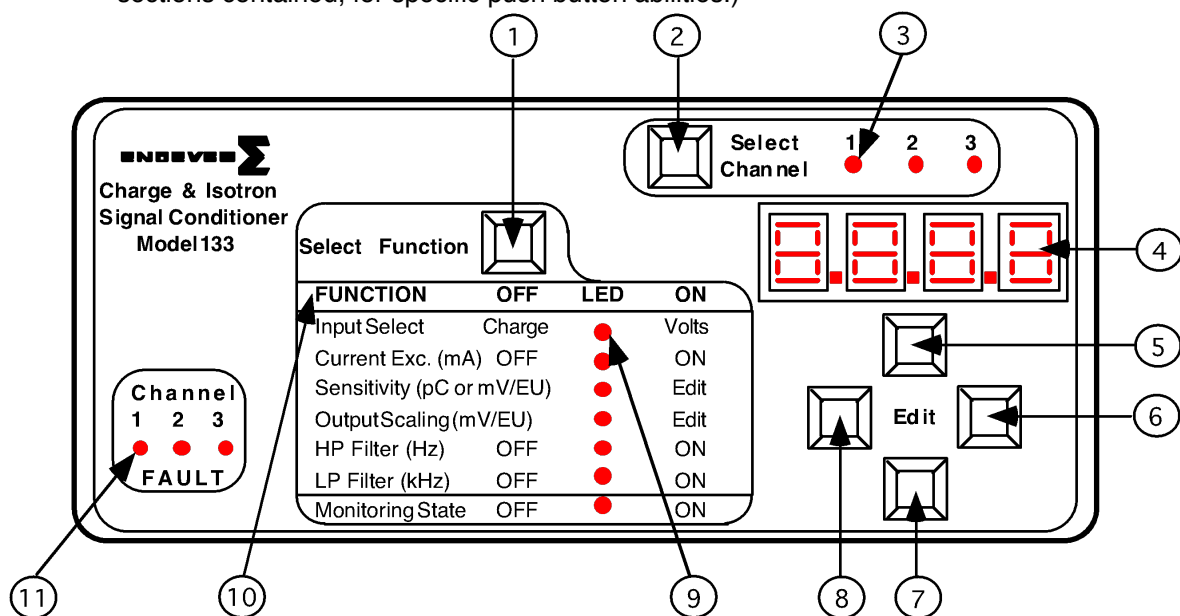

Figure 1
The Endevco Model 133 can be manually programmed from the front panel (Figure 1) by means of a "Select Channel" push-button, three (3) "Channel LEDs", a "Select Function" push-button, seven (7) "Function LEDs" indicating which function has been selected by the "Select Function" push-button (referred to in this document as the "function LEDs"), a four (4) character LED display to show the state of each function, four (4) "EDIT" push-buttons to change the entries in the LED display, and three (3) LEDs indicating if there are any faults in any of the channels (referred to in this document as the "Fault LEDs").
Shown in Figure 1 is the Model 133 front panel. The front panel is a mylar overlay, adhesively attached to the front panel aluminum plate. The mylar overlay has cutouts for the six push buttons, and clear windows for 13 LED's and the 4-digit panel meter. Each push button and LED are described as follows:
Figure 1 Item 1, is the "Select Function" push button that controls the functions listed below it. Pressing the Select Function push button scrolls through the LED's. The function selected can be modified while the LED is flashing, located to the right of the associated function.
Figure 1 Item 2, is the "Select Channel" push button. Pressing this push button sequentially selects channels one to three, which is used for set up and display of data on the digital panel meter. The appropriate channel's LED remains illuminated until a different channel is selected.
Figure 1 Item 3, is the LED for channel one of the three channel unit. The LED illuminated corresponds to the channel that is actively being set up or data displayed on the DPM.
Figure 1 Item 4, is the digital panel meter (DPM). The DPM displays alpha-numerics for the appropriate "Select Channel" selected and is used to display the channel set up and for actual data display. The DPM has an accuracy of $\pm 10\%$. (See Section 2.4, Operation and sub-sections contained, for specific push button abilities.)
Figure 1 Items 5, 6, 7, and 8 correspond, respectively to the "Up", "Right", "Down" and "Left" Edit push buttons. These push buttons are used to change the entries on the digital panel meter and are used in conjunction with the appropriate "Select Function" parameter to be programmed. (See Section 2.4, Operation and sub-sections contained, for specific push button abilities.)
Figure 1 Item 9, is one of seven Function parameters LED's that is selectable/programmable. The flashing LED identifies the function that is actively capable of being set up or modified at that time.
Figure 1 Item 10, is a list of "Functions" that are programmable for each channel, which are selected by the "Select Function" push button and are set up or modified with the four "Edit" push buttons.
Figure 1 Item 11, are the "Fault" LED's. The illuminated LED indicates that particular channel is in the ISOTRON mode, the current excitation is on and there exists a short or open circuit for the input.
The Endevco Model 133 can be manually programmed from the front panel (See Figure 1) by means of a "Select Channel" push-button, three (3) "Channel LEDs", a "Select Function" push-button, seven (7) "Function LEDs" indicating which function has been selected by the "Select Function" push-button (referred in this document as the "function LED's"), a four (4) character LED display to show the state of each function, four (4) "EDIT" push-buttons to change the entries in the LED display, and three (3) LEDs indicating if there are any faults in any of the channels (referred in this document as the "Fault LED's").